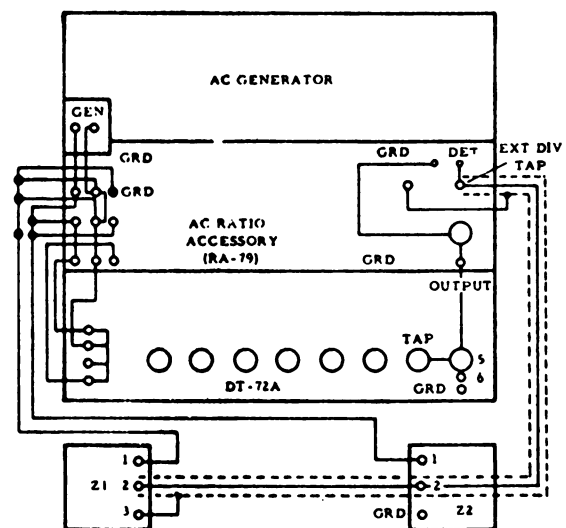
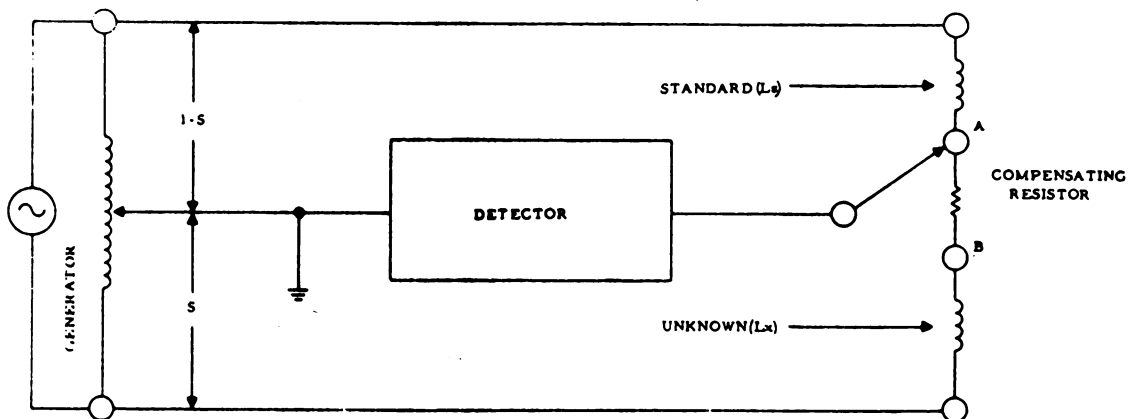
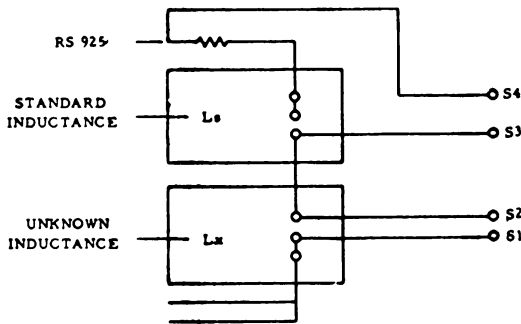
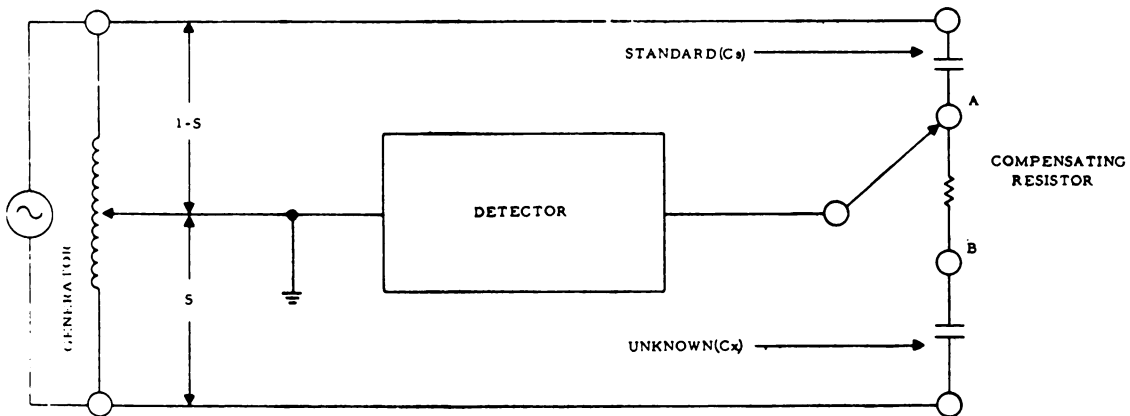

Figure 1-24. Impedance measurement system.
Figure 1-25. Inductance measuring circuit.
Figure 1-26. Inductance measurement connections.
Figure 1-27. Capacitance measurement circuit.
A typical measurement system to which the preceding symbols might apply is shown in figure 1-24.
When the measurement equipment is connected as shown in figure 1-24, find the impedance ratio  $Z1/Z2$ , using the relationship
The preceding formulas and symbols apply to the symbols and the equipment hookup referenced in figure 1-24. If we use a different arrangement of equipment for a different measurement, we will have to use different symbols and formulas. For an example of the change required in measurement symbols and formulas, you can compare the measurement system and symbols used in figure 1-24 with the system and symbols of figures 1-25, 1-26, and 1-27.
**Standard Inductor and Capacitor.** In the circuit of figure 1-25, an inductive divider, which is used in the measurement of AC ratios, AC voltage, resistance, capacitance, and inductance, is connected for the measurement of an unknown inductance ( $L_x$ ). The unknown inductance is compared to a standard inductor ( $L_s$ ) such as a type 1482-L (100 millihenries). You can see from the connection of the circuit that the balance equation for this circuit is
where  $S_1$ ,  $S_2$ ,  $S_3$ , and  $S_4$  are identified in figure 1-26. You will note that this equation is essentially the same as the equation for the circuit in figure 1-25.
The circuit of figure 1-27 is very similar to that of figure 1-25, except that a standard capacitor ( $C_s$ ) is used. Both the standard inductor and capacitor are supplied with the console.
Although the principle for capacitance measurement is the same as that for an inductance measurement, the method of determining the value of the unknown capacitance is slightly different. From your study of capacitance, you know that the value of capacitance is inversely proportional to its impedance or capacitive reactance. Since the voltage applied to the measurement circuit will divide in a ratio determined by the impedances, it follows that the ratio for calculating  $C_x$  in figure 1-27 will be
3. While measuring  $C_x$  in figure 1-27, the following setting is obtained. What is the value of the unknown capacitance, if the SC 1000 is used as the standard?